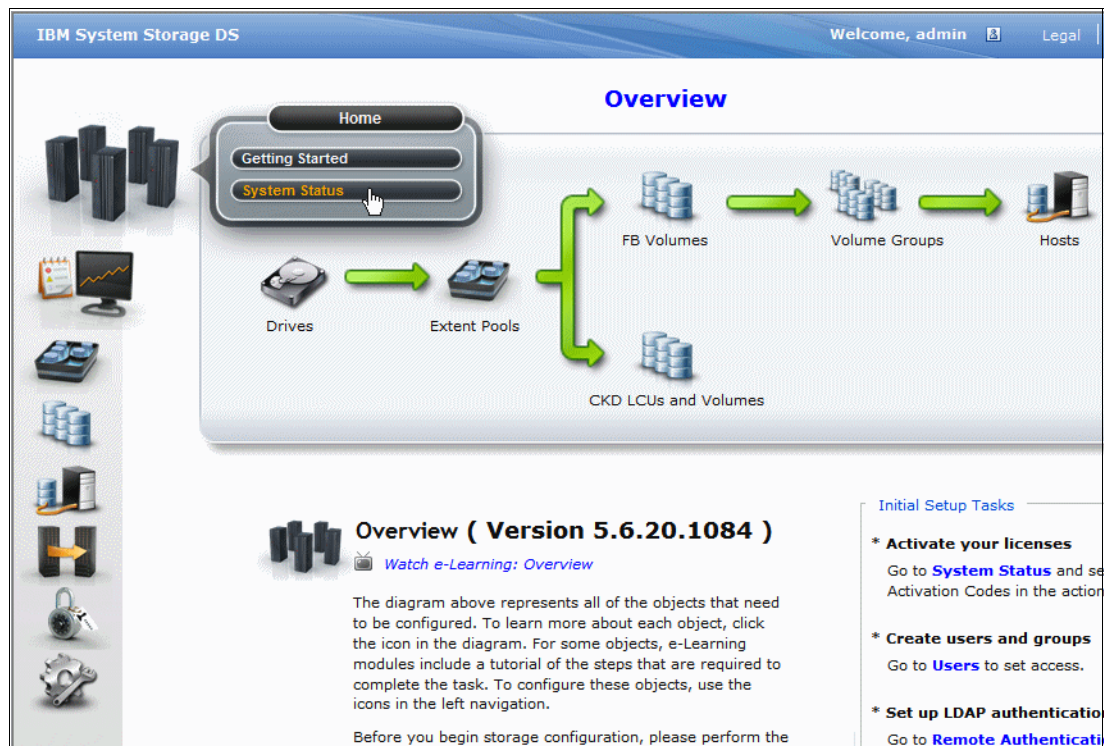

Figure D-3 DS8000 GUI Overview panel
1. On the Overview panel, hover over the Home icon, and select **System Status**, as shown in Figure D-3. The System Status window opens.